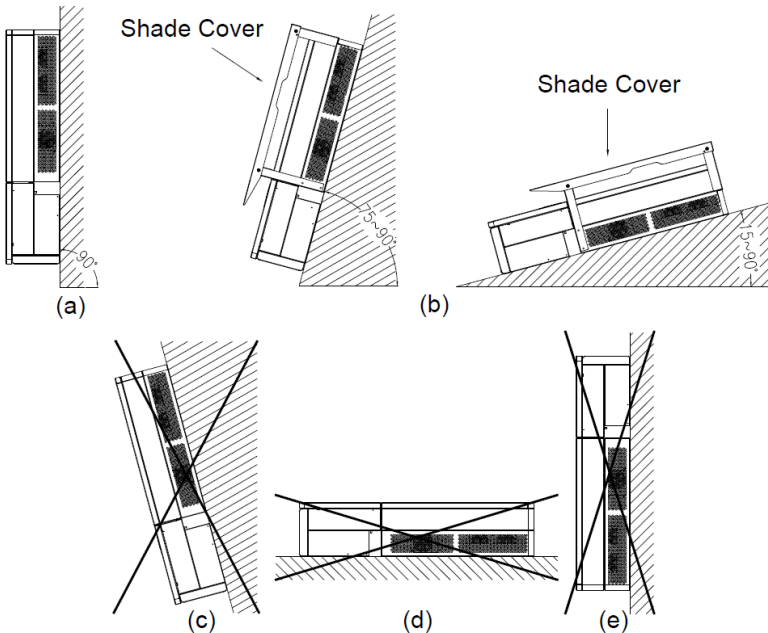

Figure 2.2 - Inverter Mounting
2) Installation Method (see Figure 2.2):
WARNING: Do not install the inverter tilted forward, lying on its back, or upside down as shown in Figure 2.2 c, d and e.